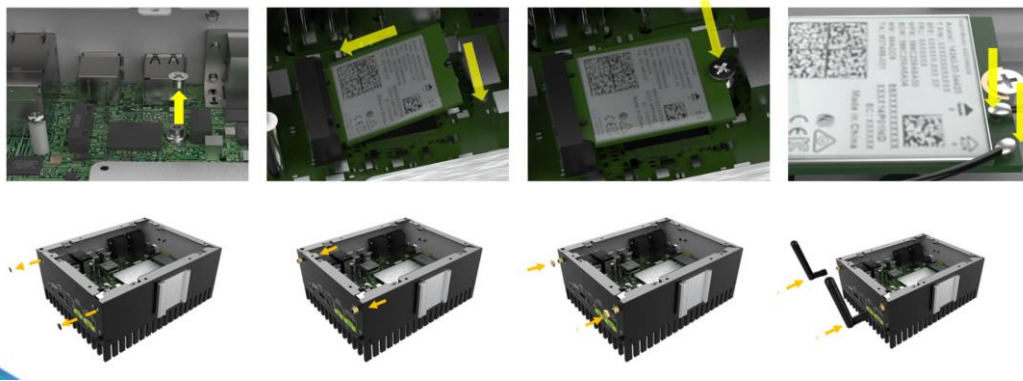

Figure 3-6: Wi-Fi Module Installation
- Step 5:** Install the external antennas (**Figure 3-6**).